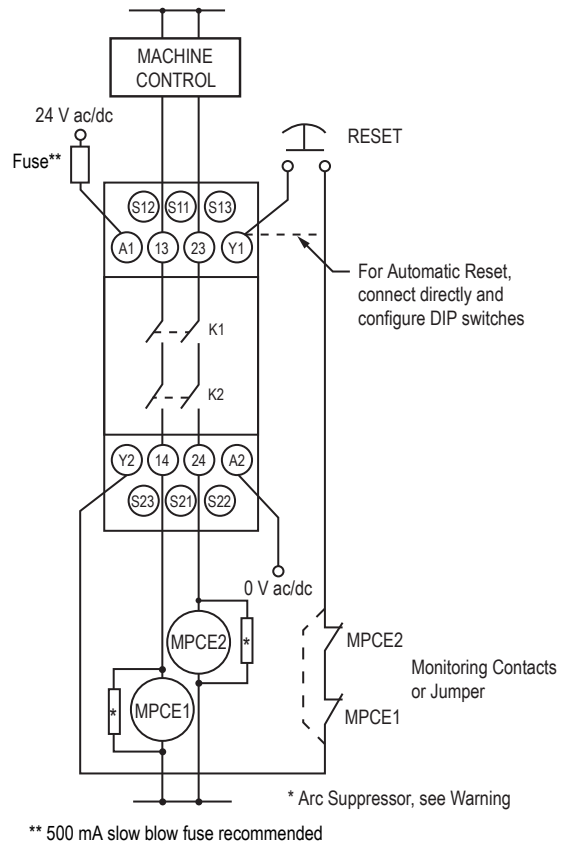

Figure 7. Wiring to the guarded machine
The reset function has two options, selected by DIP switch: Automatic reset or Monitored Manual reset. See Figure 7 (p. 9) for configuration information.
To satisfy the Safety Category 4 requirements of EN ISO 13849, each MPCE must offer a normally closed, forced-guided monitor contact. One normally closed monitor contact from each MPCE is wired in series to the Y1-Y2 feedback/reset input (see Figure 7 (p. 9)). In operation, if one of the switching contacts of either MPCE fails in the shorted condition, the associated monitor contact will remain open, preventing the reset of the Module.
The reset switch must be capable of reliably switching 15 to 30 V dc at 5 to 50 mA. As shown in *Figure 7* (p. 9), the reset switch connects between terminals Y1 and Y2 of the Module. The reset switch must be located outside of – and not accessible from – the area of dangerous motion, and it must be positioned so the switch operator can see all areas of dangerous motion during the reset procedure (see Warning).
To configure the Module for Automatic Reset, set switches S1.2 and S2.2 in Banks A and B to ON. If no MPCE contacts are monitored, install a jumper between terminals Y1 and Y2 (see Figure 7 (p. 9)). The Safety Module will reset (and its outputs will energize) as soon as the guards return to their closed position.
3. Apply input power (only) to the Gate Monitor Module at terminals A1 and A2 (see Figure 7 (p. 9)). The following LEDs should come ON: Power, Input 1, Input 2